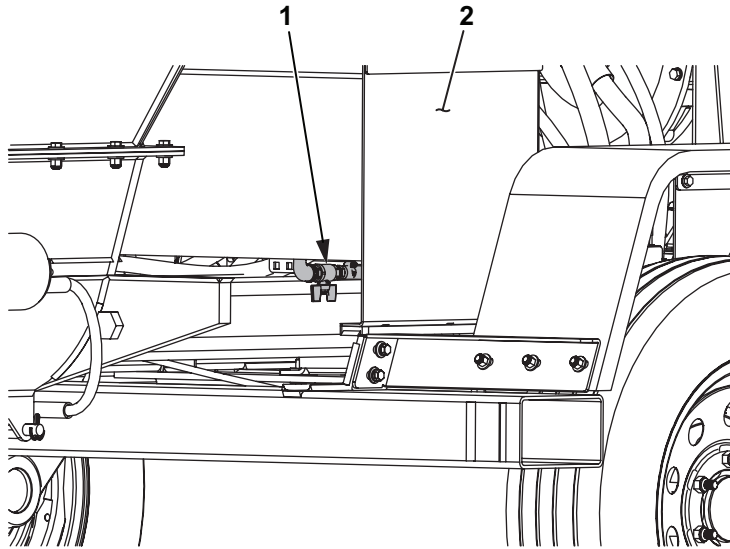

Figure 6 Fuel Tank Shutoff Valve
1. Turn the fuel tank shutoff valve (Figure 6, Item 1) to the ON position.
3. Turn the fuel tank shutoff valve (Figure 6, Item 1) to the OFF position.